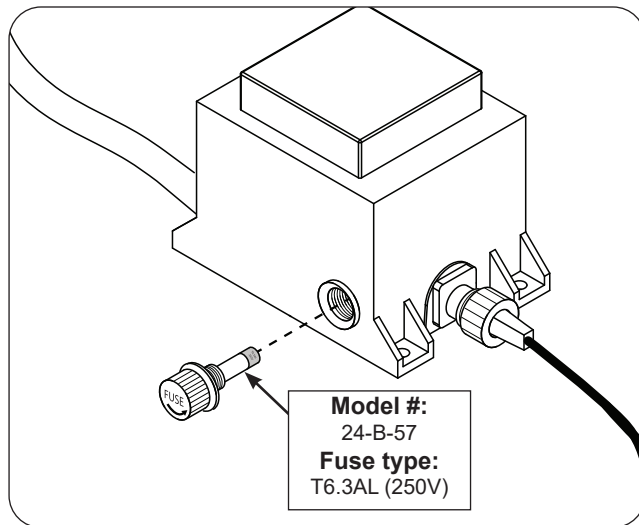

Fig. 43-1 Replace fuse
3. Locate the fuse holder on the power supply box (see Fig. 43-1).